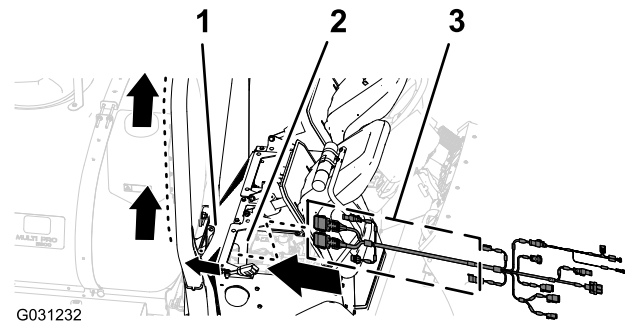

Figure 157
- Route the 390 cm (153-1/2 inches) branch of the data harness into the right side of the engine compartment (adjacent to the air filter for the engine) and rearward under the bottom right area of the rear engine shroud (Figure 157).